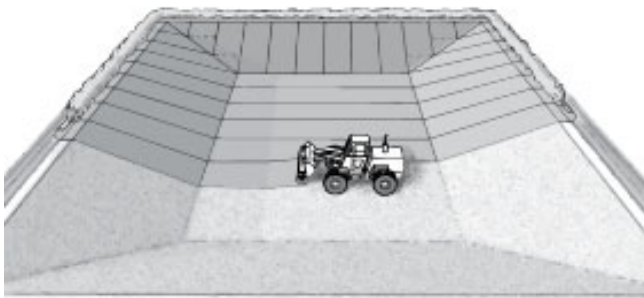

Fig. 6: Typical GCL installation technique
2. Equipment which could damage the **Claymat GCL** should not be allowed to travel directly on it. Therefore, acceptable installation may be accomplished whereby the **Claymat GCL** is unrolled in front of backwards-moving equipment (Figure 6). If the installation equipment causes rutting of the subgrade, the subgrade must be restored to its originally accepted condition before placement continues.